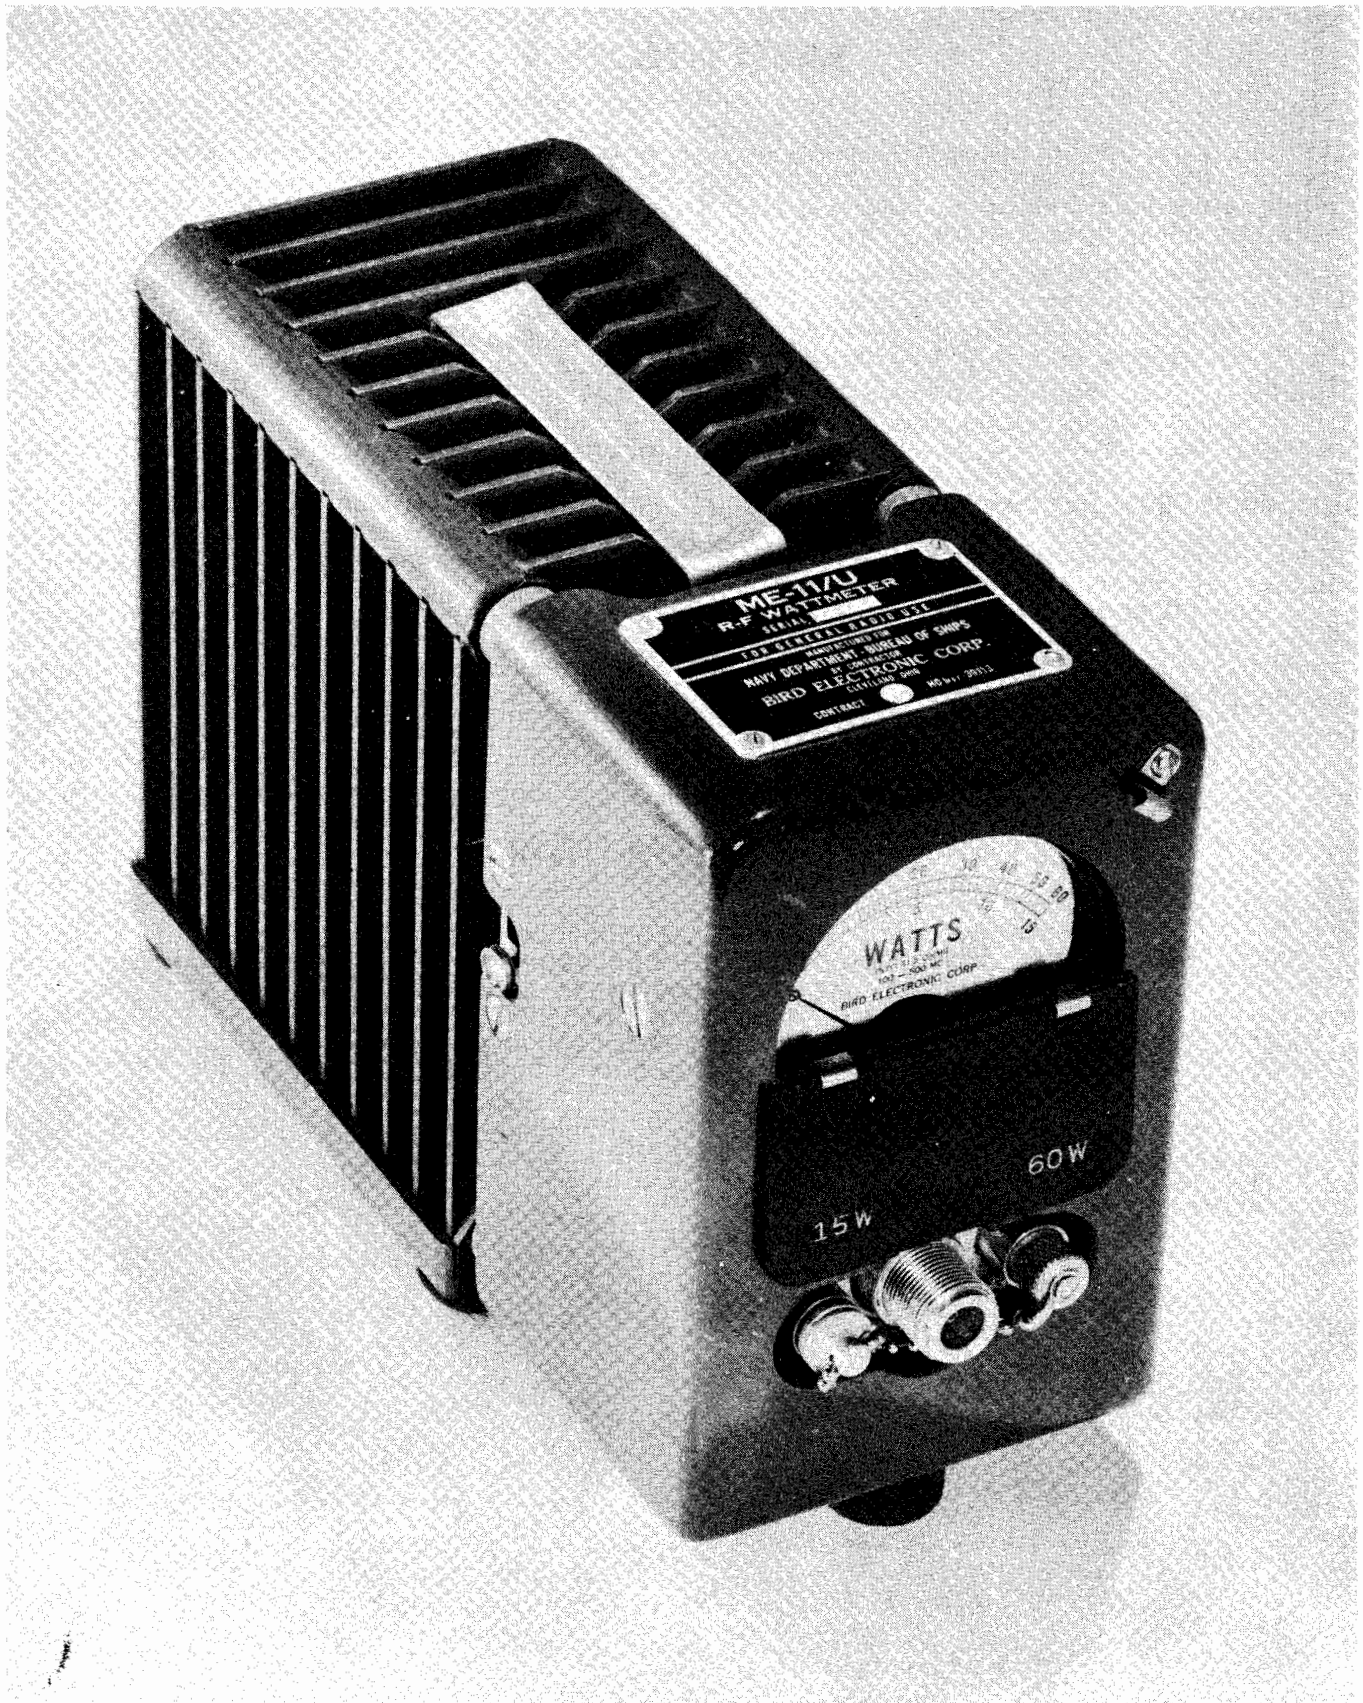

Fig. 1-1. Front View RF Wattmeter ME-11/U
3. DESCRIPTION (See Fig. 1-1)
c. The sealed meter is protectively surrounded by the meter box and is shock mounted within the box. A protective flap (Fig. 1-1) covers the meter face opening for extra precaution when being carried around. The meter is equipped with a coaxial, hermetically sealed connector, J-104.